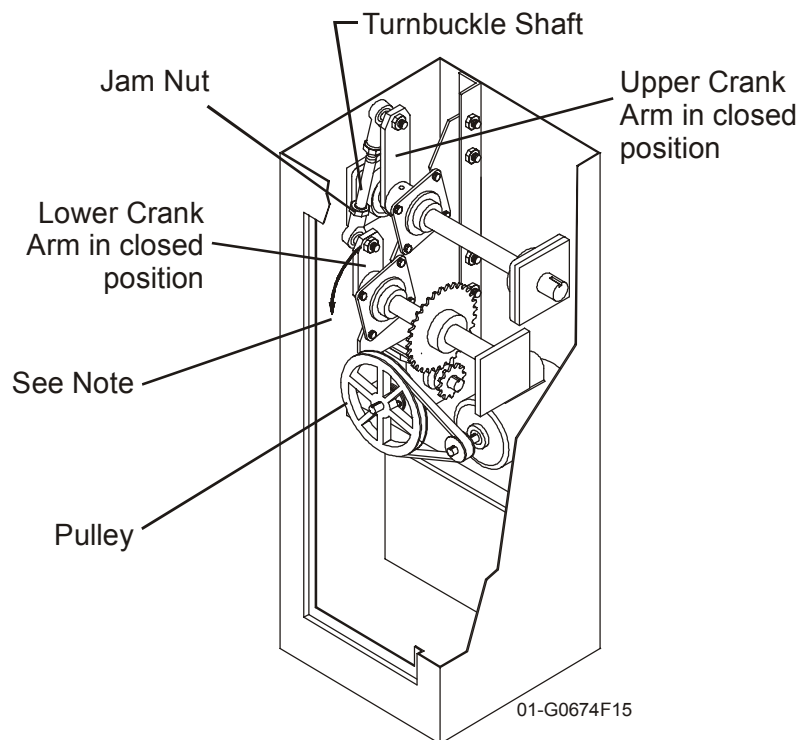

Figure 13: Model BG790
- 1 If necessary, rotate the pulley on the motor by hand until the upper and lower cranks are in a vertical position (see Figure 13). This is the lowest point of travel and should be preset in this position at the factory.